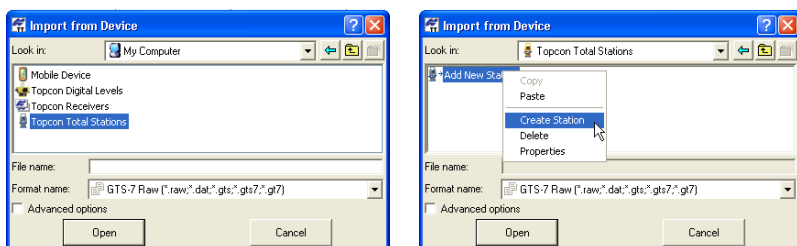

Figure 3-41. Creating a New Station
3. To add a device, right-click **Add New Station** and click **Create Station** (Figure 3-41).